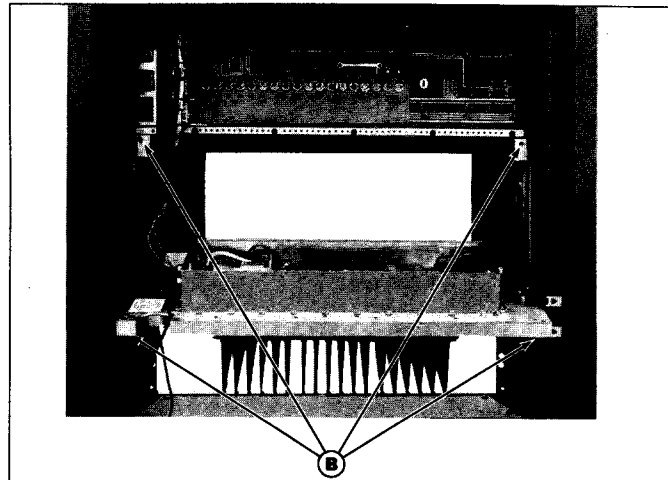

FIGURE 5 - ACCESS TO POWER AMPLIFIER REAR VIEW
1. Remove the top two screws (B) on the Intermittent or Continuous Duty Power Amplifier. Refer to Figure 5.